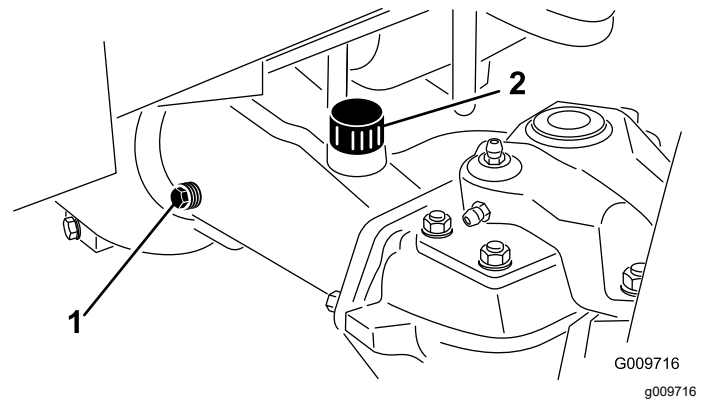

Figure 66
2. Remove a check plug from 1 end of the axle and ensure that the lubricant is up to the bottom of the hole (Figure 66).